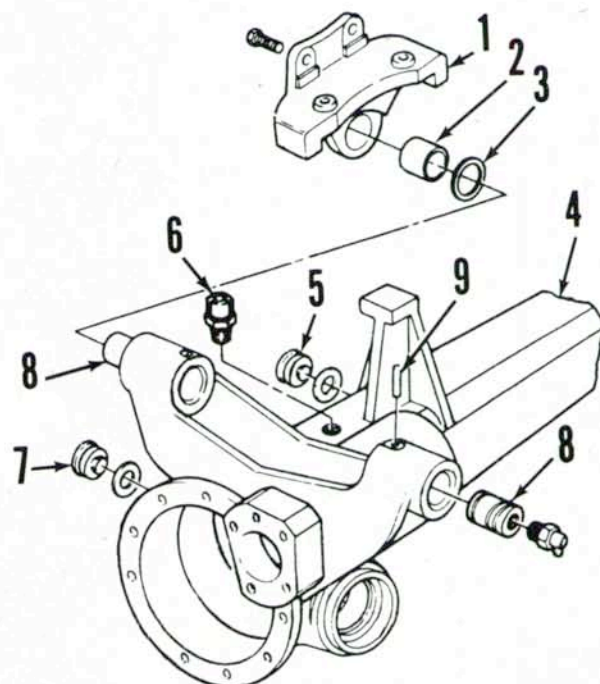

Fig. 5—Exploded view of front pivot support and front wheel drive axle housing typical of APL-345 and APL-355 axles used on TW-5, TW-15 and TW-25 tractors.
**6. R&R FRONT AXLE AND PIVOT SUPPORT.** To remove front axle and pivot support as an assembly, first disconnect drive shaft. Remove front weights and remove weight carrier bracket (TW-5 and TW-15). Raise and support front of tractor, then remove front wheels. Place blocks between axle and pivot support to prevent tipping. Disconnect power steering lines from cylinder and plug the openings. Support the axle with a suitable hoist or jack. Remove cap screws attaching pivot support (1—Fig. 5, 6 or 7) to main support housing, then remove axle assembly from tractor.
Fig. 6—Exploded view of APL-365 front wheel drive axle housing and pivot support typical of late production TW-25 and TW-35 tractors. Except for retaining set screw (9), refer to Fig. 5 for legend.